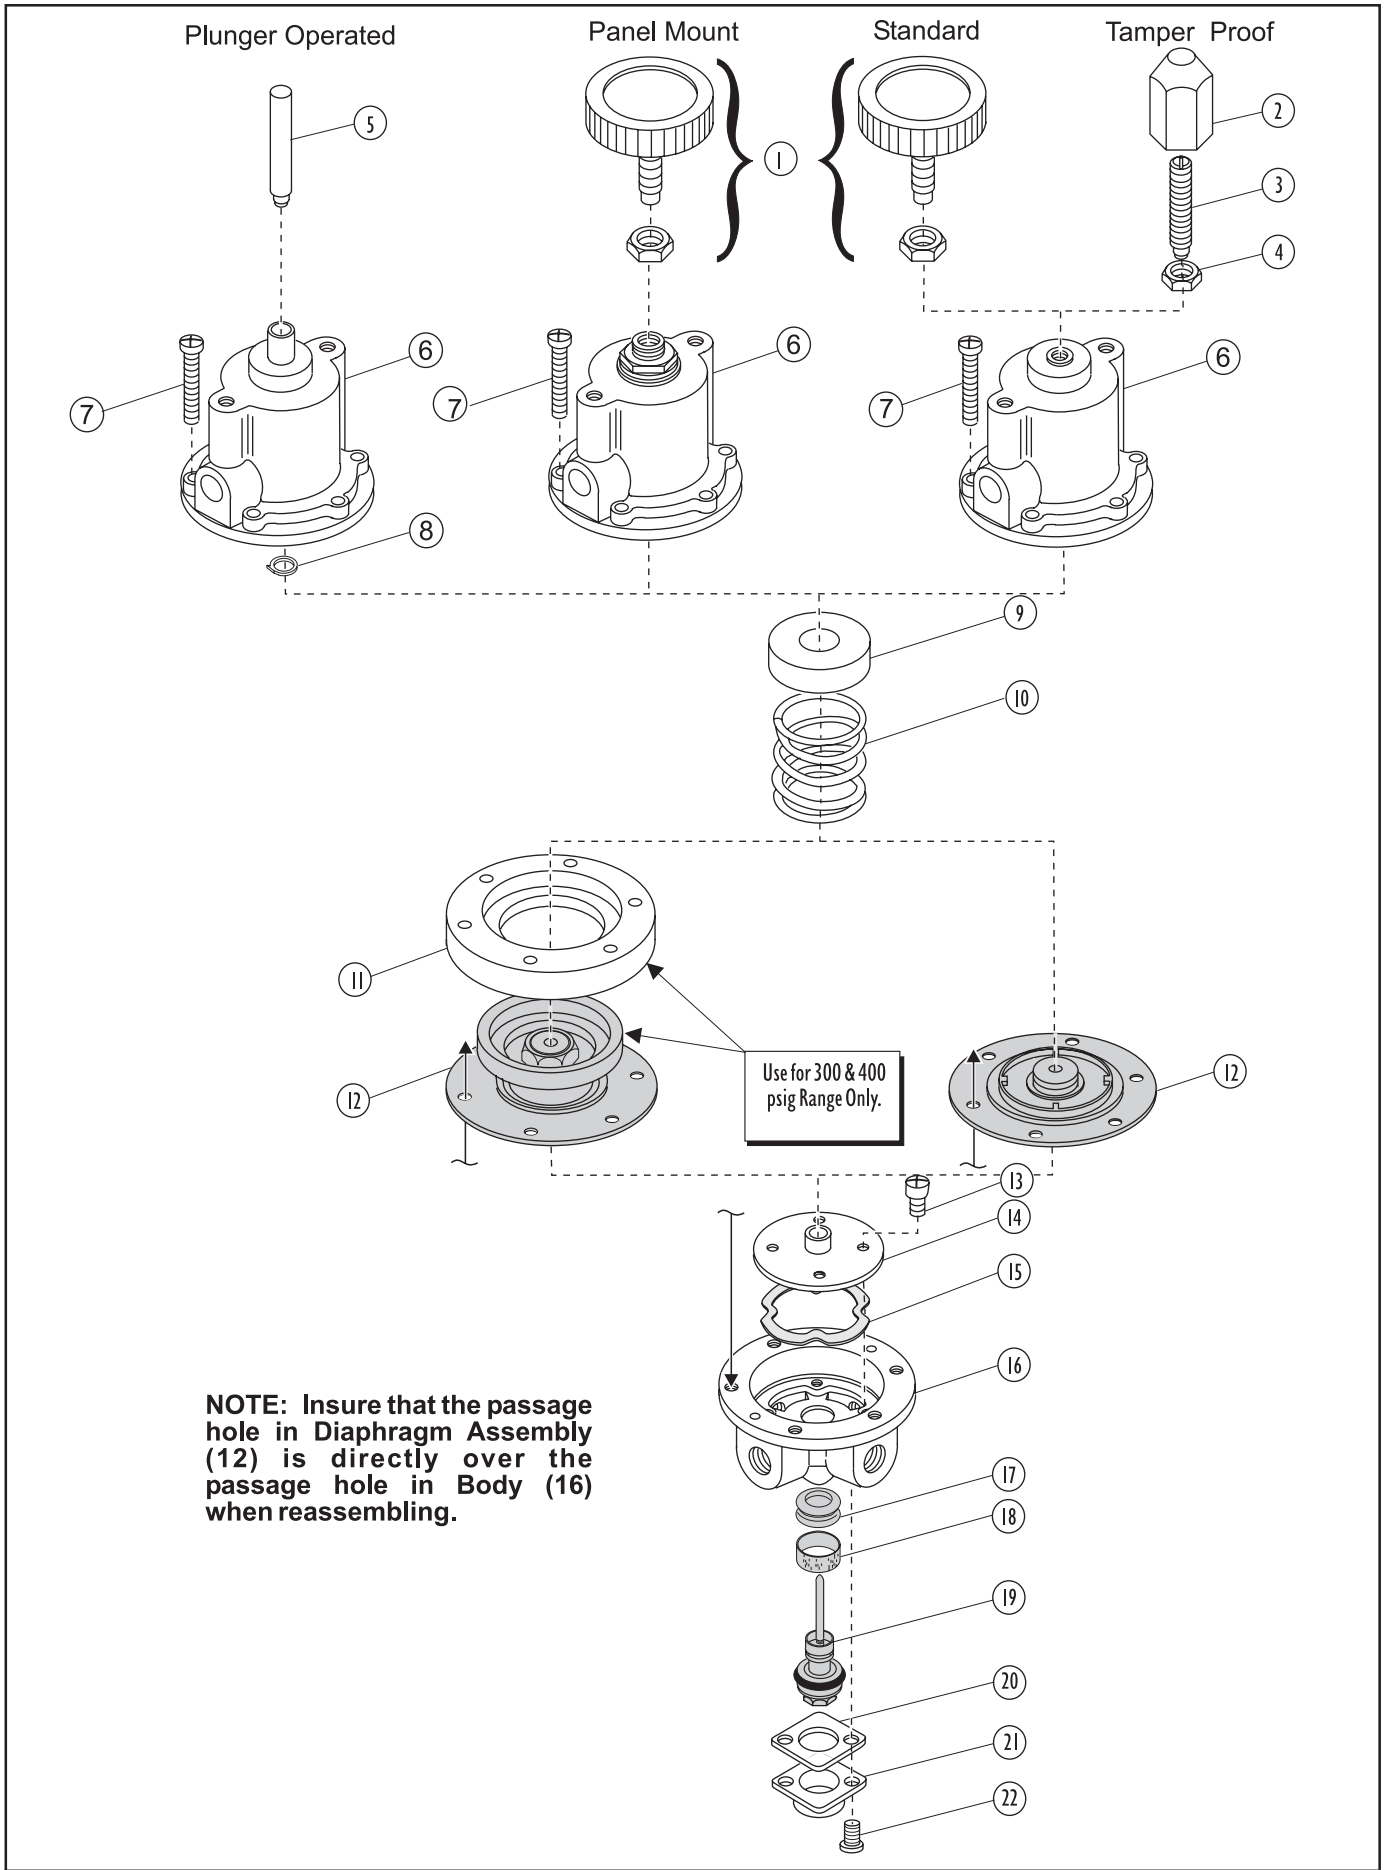

Figure 4. Exploded Drawing
2. Remove the two Screws (22) from bottom of the unit.
3. Pull out the Inner Valve Assembly (19). Wash the Seat on the Inner Valve Assembly carefully.
4. Wipe off any particles that may be attached to rubber Seat Ring (17) in Body.
6. Keep the vent hole in the Bonnet clear for proper regulator operation. Lubricate the adjusting screw with Molycote "G". For more information, see Figure 4. "Exploded Drawing" on page 3.